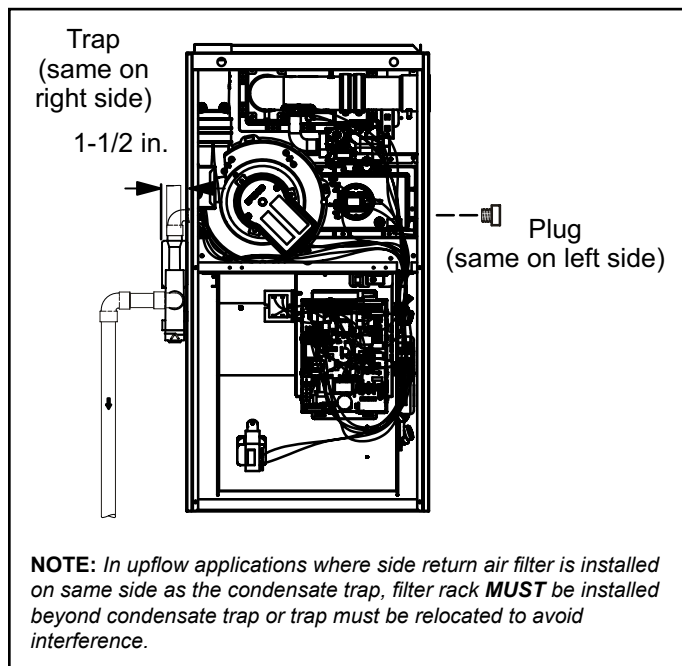
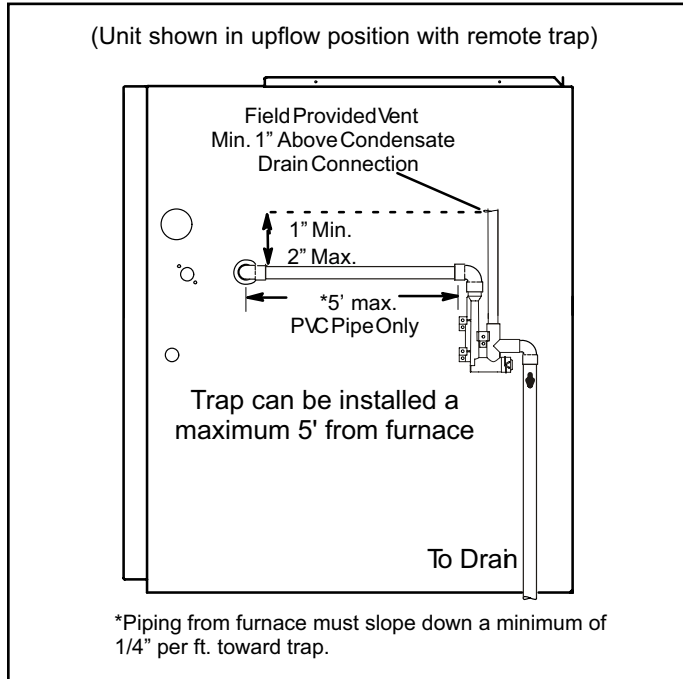
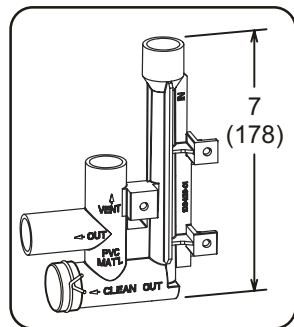

Figure 33. Condensate Trap and Plug Locations (unit shown in upflow position)
Figure 35. Condensate Trap Locations
Figure 41. Trap / Drain Assembly Using 1/2" PVC or 3/4" PVC
This unit is designed for either right- or left-side exit of condensate piping in upflow applications. In horizontal applications, the condensate trap must extend below the unit. An 8" service clearance is required for the condensate trap. Refer to Figure 33 and Figure 35 for condensate trap locations. Figure 41 shows trap assembly using 1/2" PVC or 3/4" PVC.
2. Use a large flat head screw driver or a 1/2" drive socket extension and remove plug (Figure 33) from the cold end header box at the appropriate location on the side of the unit. Install provided 3/4 NPT street elbow fitting into cold end header box. Use Teflon tape or appropriate pipe dope.
3. Install the cap over the clean out opening at the base of the trap. Secure with clamp. See Figure 41.
4. Install drain trap using appropriate PVC fittings, glue all joints. Glue the provided drain trap as shown in Figure 41. Route the condensate line to an open drain. Condensate line must maintain a 1/4" downward slope from the furnace to the drain.